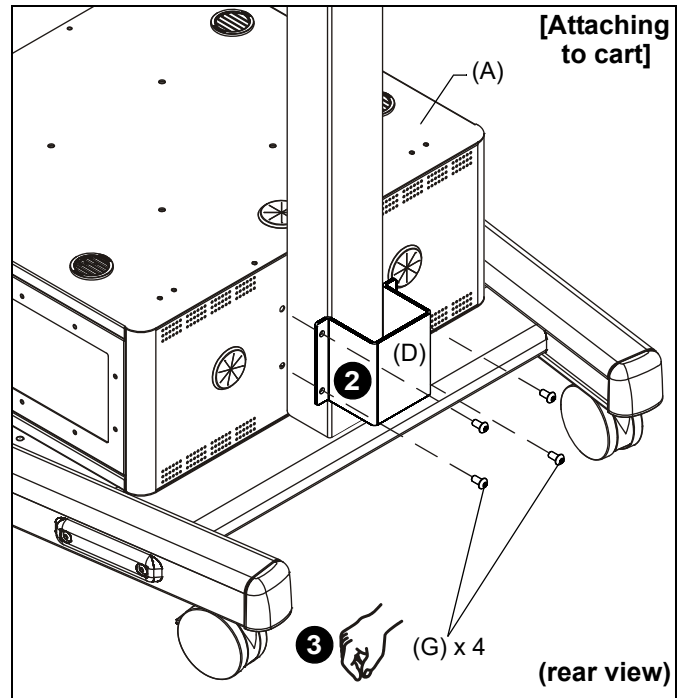
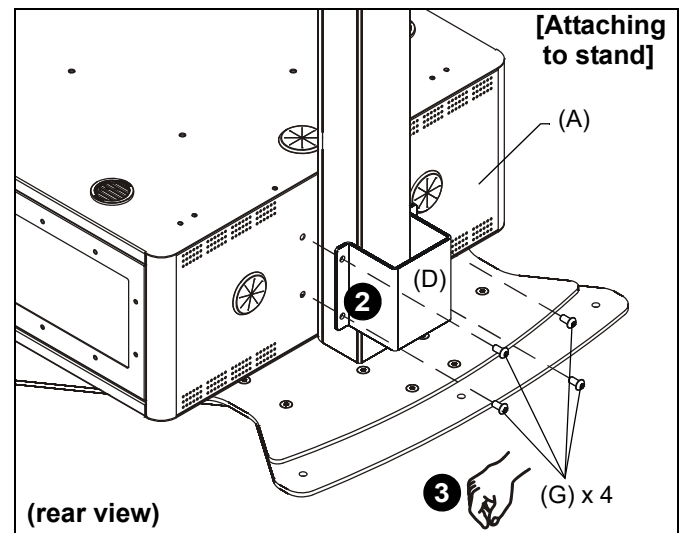

Figure 6
Figure 7
2. Place clamp bracket (D) around cart/stand and line up with holes on back of storage cabinet (A). (See Figure 6)
3. Insert four 5/16-18 x 1" button head cap screws (G) through clamp bracket holes and into holes on back of storage cabinet (A). (See Figure 6) and (See Figure 7)
4. Open either door on accessory to install remaining four 5/16-18" hex nuts (J) onto four 5/16-18 x 1" button head cap screws (G) until accessory is fully secured to cart/stand. (See Figure 6)